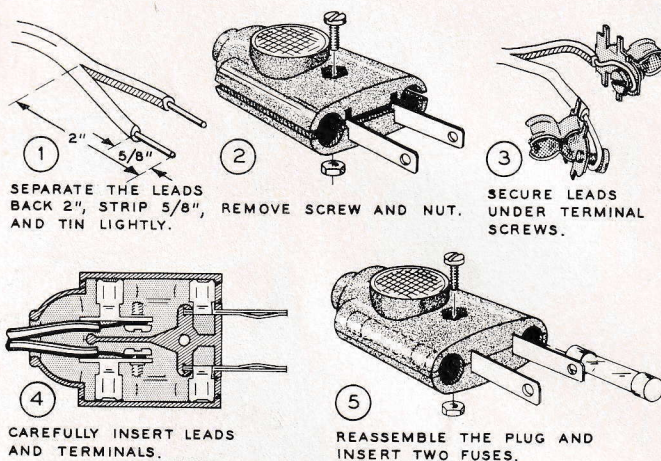

Figure 5
- () Refer to Figure 5 and mount the fused power plug on the free end of the line cord. Separate the two leads for 2". Strip the ends 5/8" and tin lightly with solder. Secure the two leads under the screw terminals of the plug. Insert the two 3 ampere fuses.